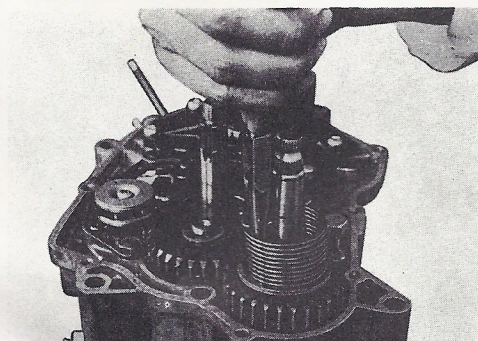

Fig. 3-10-4
- b. Detach the spring from the kick shaft, and remove the spring. (Fig. 3-10-4)